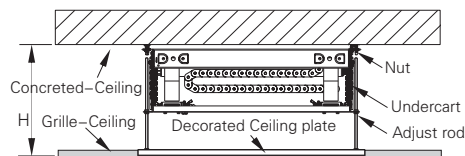

Figure3 Standard ceiling installation
A. If $H < H1$ (Supposed it's Maximum H2), can install project lift on the Concreted–Ceiling directly Check Figure 3.